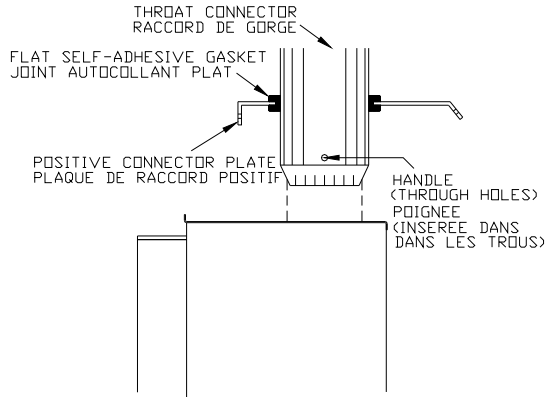

Figure 4
D. Install the flat self-adhesive gasket around the inside of the 152 mm diameter hole in the plate. Put the handle through the two holes in the throat connector (see Figure 4). Install the female end of the throat connector up through the hole in the plate so that it is held in position by friction, ready to be pulled down later.